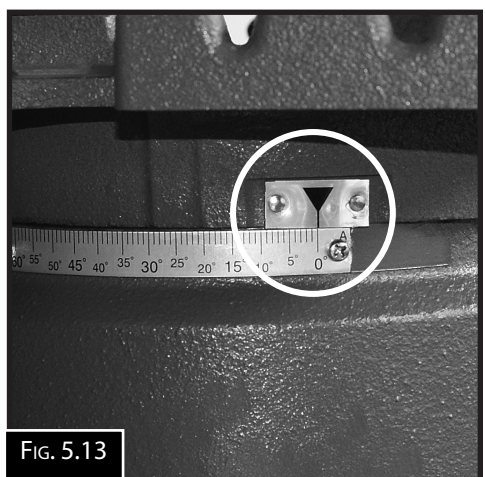

FIG. 5.13
3. Raise the saw bow, then move the head and set the scale to "0". (Fig. 5.13) then lower the saw bow and lock in place.